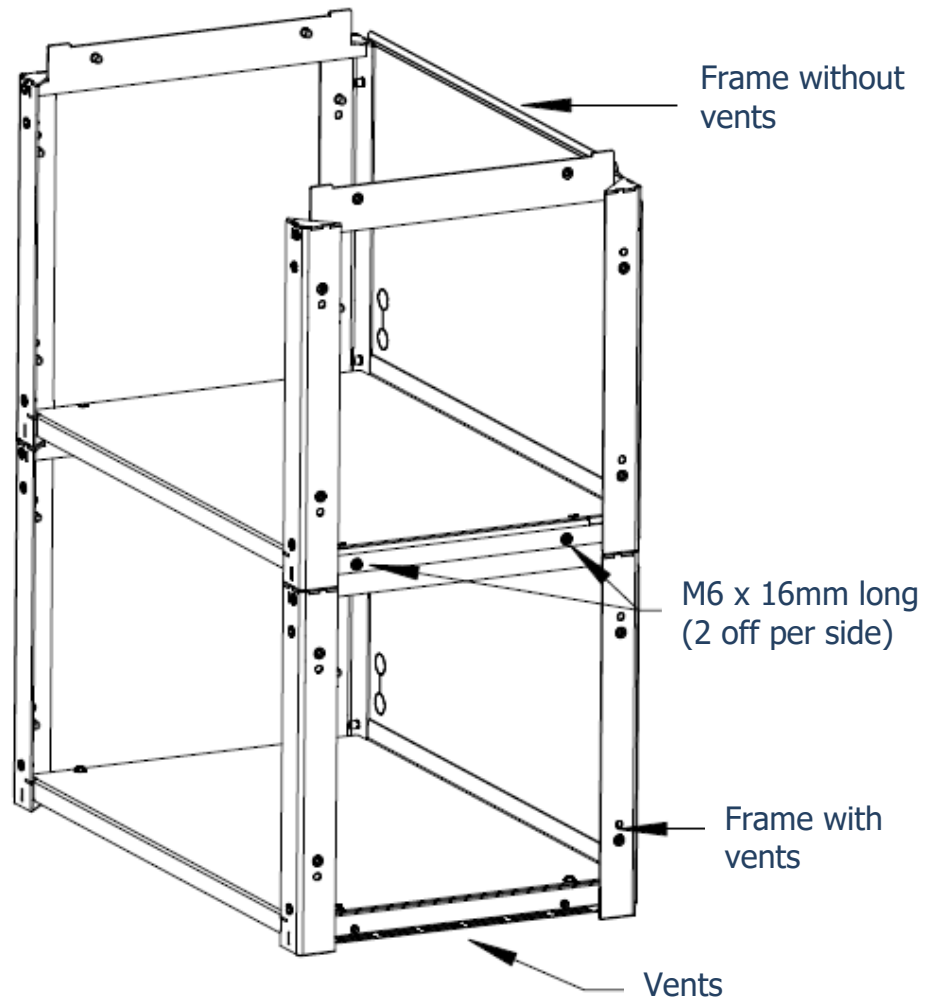

Figure 6
- Place the frame assemblies together as shown in Figure 6. Frames with vents to be at the bottom of the assembly.
- Secure to each other using the M6 x 16mm long screws (2 off per side) supplied as shown in Figure 6.